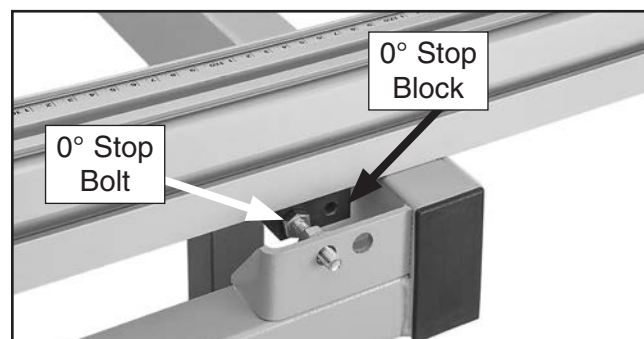

Figure 95. Stop block against 0° stop bolt.
5. Rotate fence so stop block is against 0° stop bolt (see **Figure 95**).